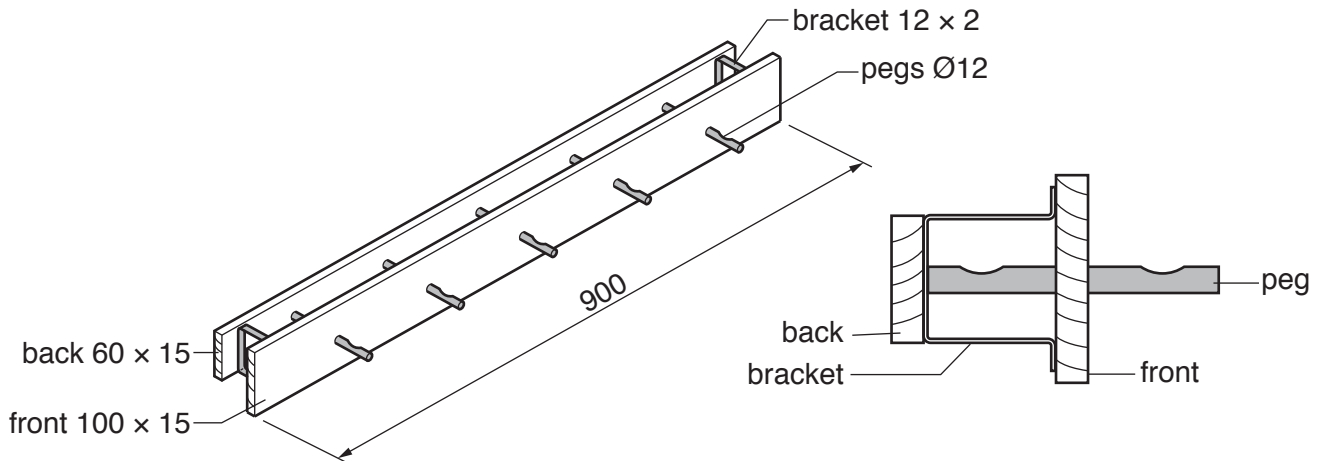

Fig. 11
- 12 Fig. 11 shows views of a wall-mounted coat rack. Coats are hung on the front pegs and coat hangers can be hooked over the pegs behind the front of the coat rack.
- (f) The purpose of the bracket shown in Fig. 11 is to join the front to the back of the coat rack. Use sketches and notes to show a different method using wood-based materials rather than stainless steel.